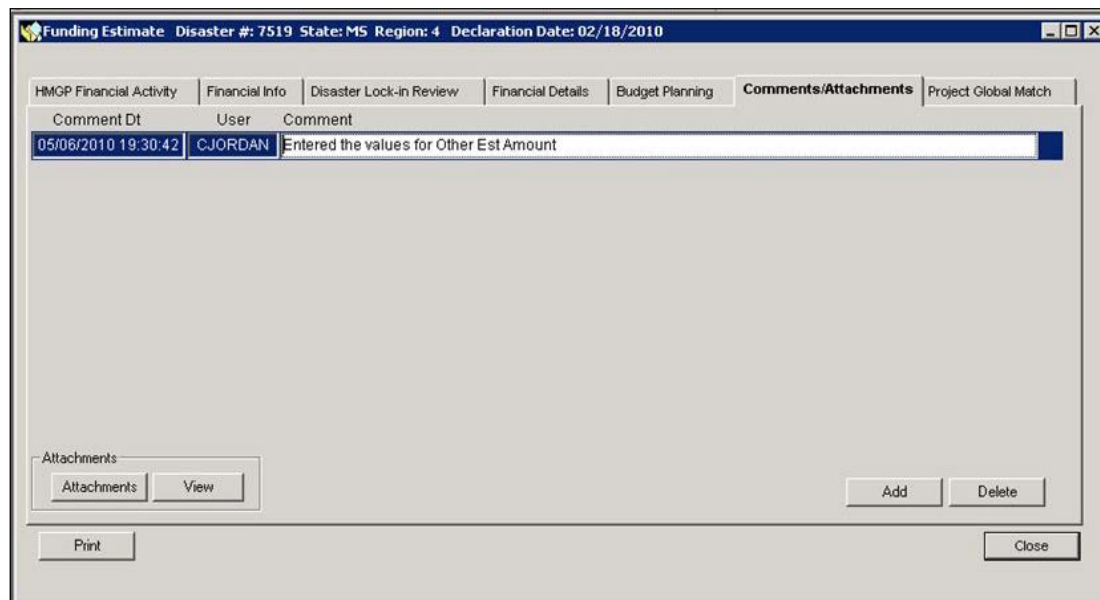

Figure 5-17: Mitigation >Funding > Estimate > Comments/Attachments Tab
1. Click the **Comments/Attachments** tab (Figure 5-17).